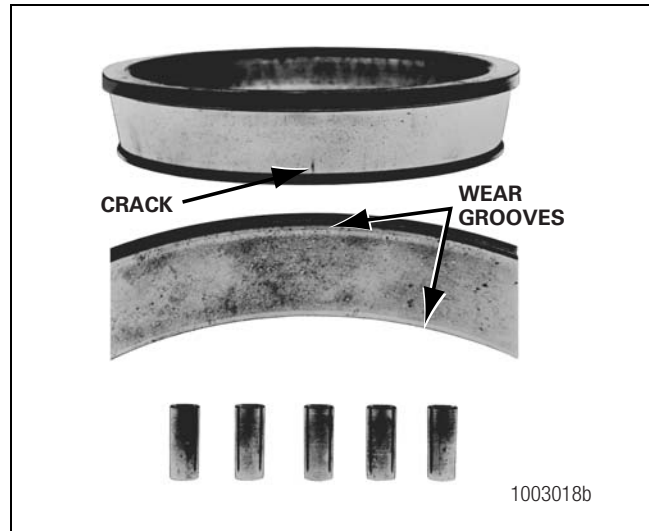

Figure 4.2
- There is a visible roller groove in the cup or cone inner race surfaces. The groove can be seen at the small- or large-diameter end of both parts. Figure 4.2.
- There are deep cracks or breaks in the cup, cone inner race or roller surfaces. Figure 4.2.